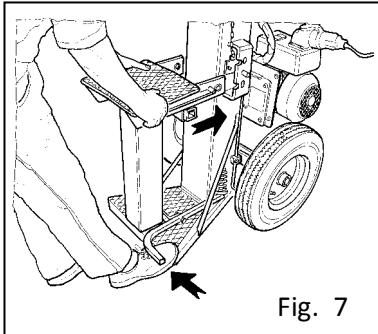

Fig. 7
- first insert the two lower board slots in the base centring and fix the pedal under the vertical control rod; (Fig. 7)